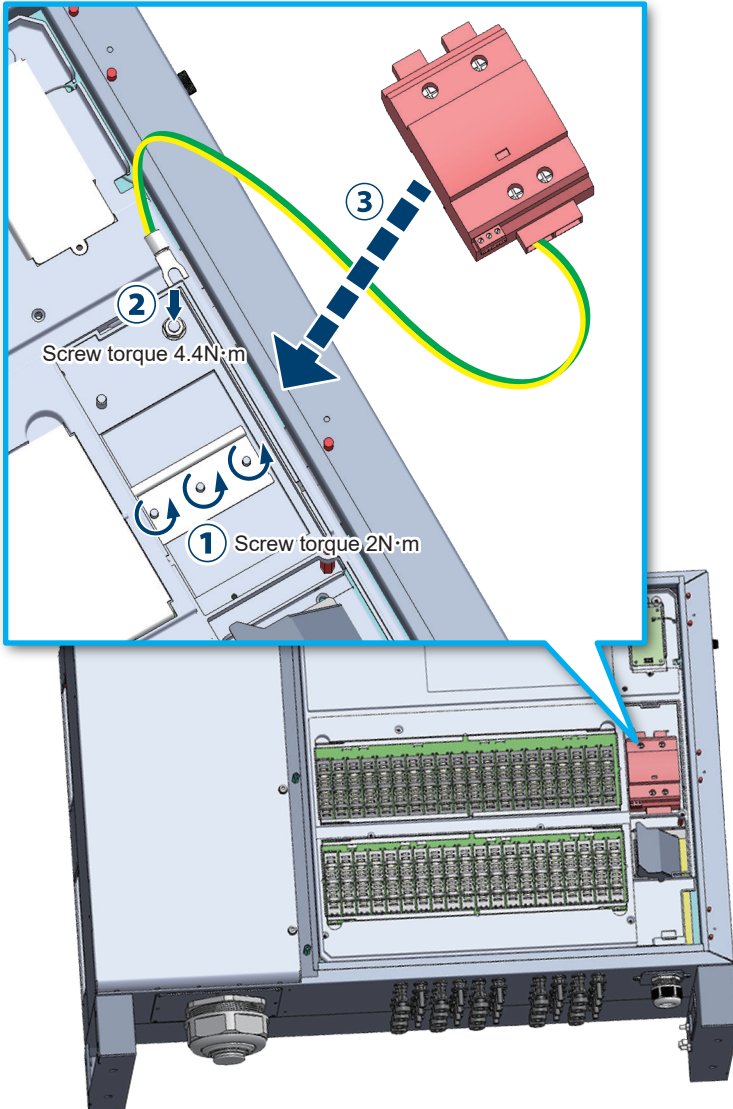

Figure A-5: Lock track and Install
4. Lock the track with 2N · m torque (**Figure A-5** ①) and PE wire.
5. Install the SPD to the track. (**Figure A-5** ②)